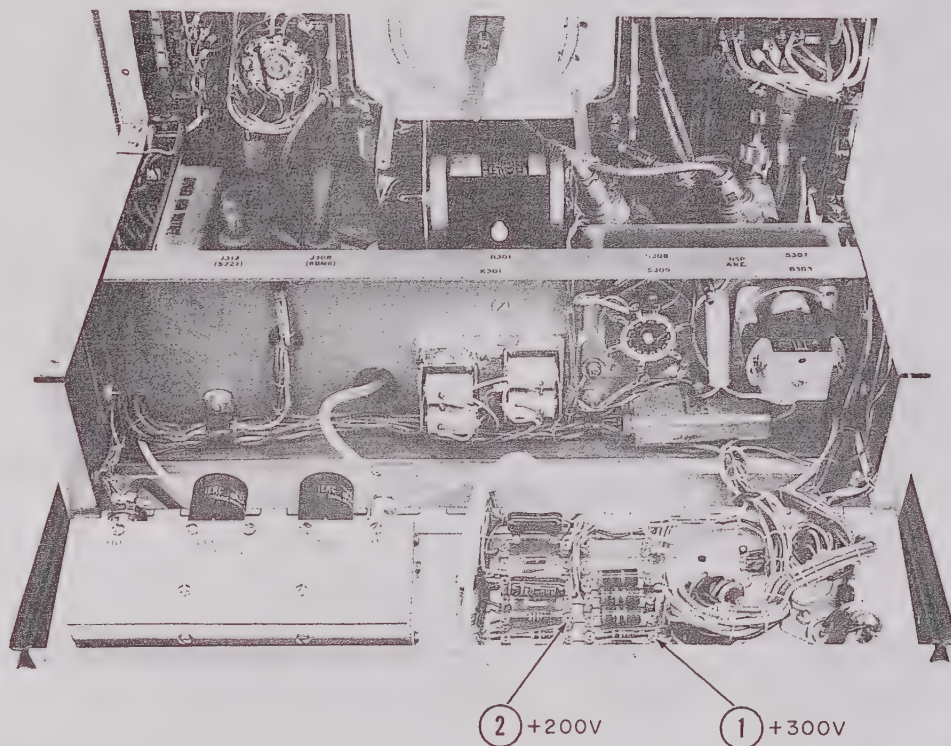

Figure V-19a. Tuning Head (Rear View) Ser. Nos. 151 - 200
Continuity check the wiring from Ref. 1 and 3, Fig. V-19a or V-19b for the +300 V line and Ref. 2 and 4 for the +200 V line. Continue on through the meter circuit until the trouble is found. The meter is located at the grounded end of the line and the voltage drop across it is about .05 V.
3. Klystron Filament Supply. Both of the klystron filaments are heated by a regulated dc supply. These units are located on the lower right side of the Tuning Head and are mounted on the gusset by insulating spacers. Some units may be equipped with additional spacers for the protective cover. This is to provide better ventilation and has no bearing on the electrical characteristics of the unit. See Figure V-19a and b.